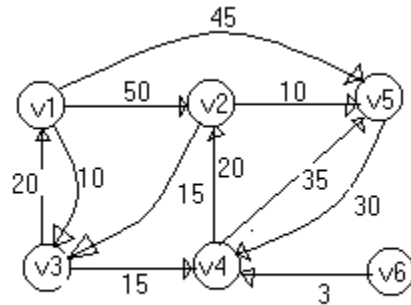

Fig 7.1
Consider the digraph of fig 7-1. Let the numbers on the edges be the costs of travelling along that route. If a person is interested travel from v_1 to v_2 , then he encounters many paths. Some of them are
Step 1: find the adjacency matrix for the given graph. The adjacency matrix for fig 7.1 is given below
The solution for the fig 7.1 can be continued as follows